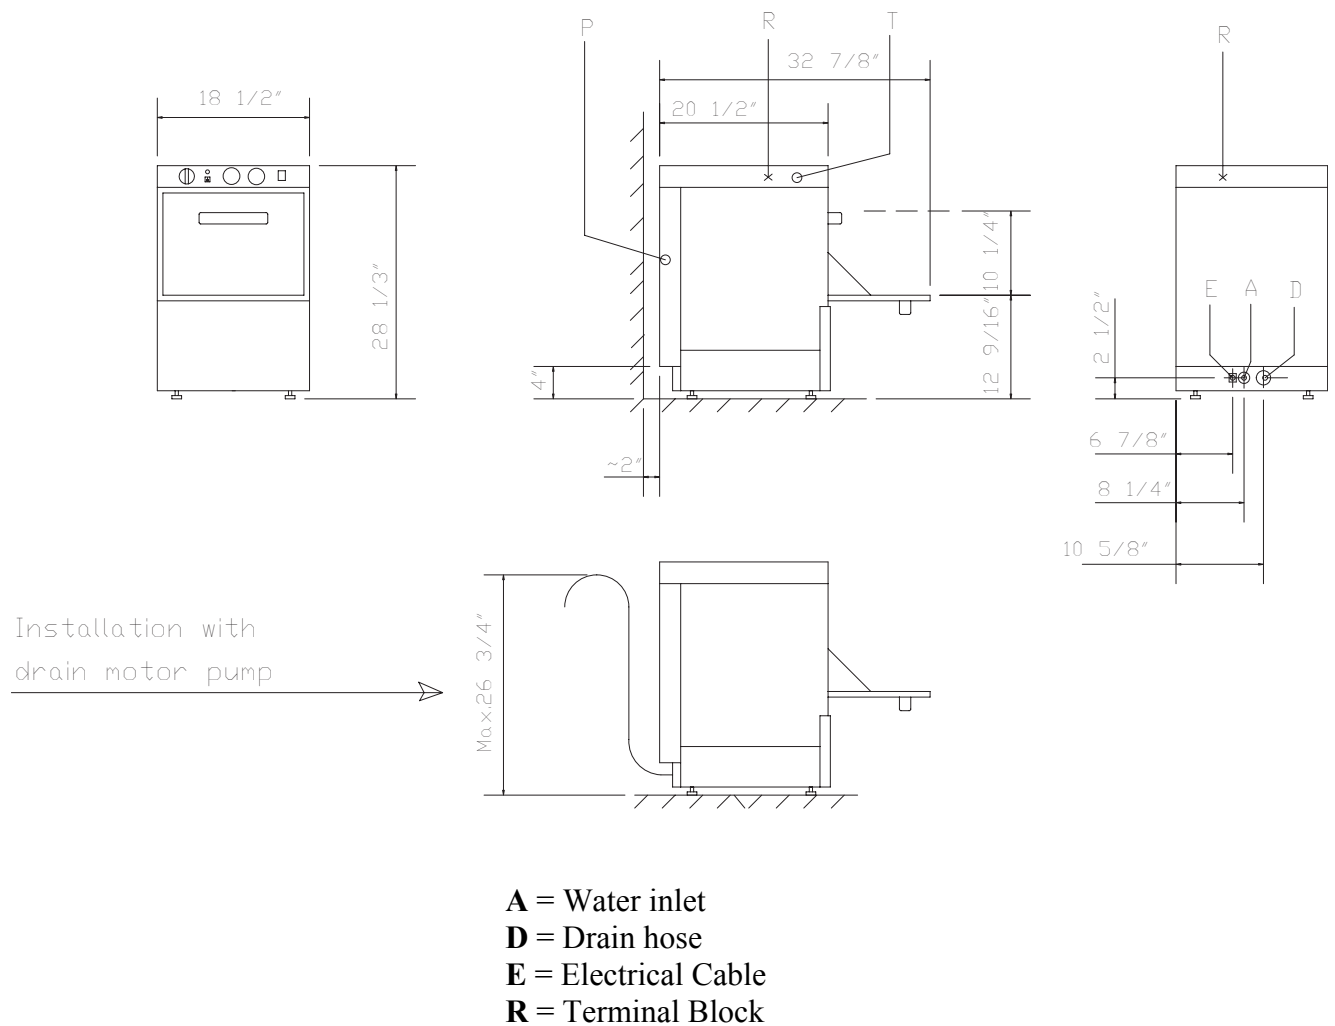
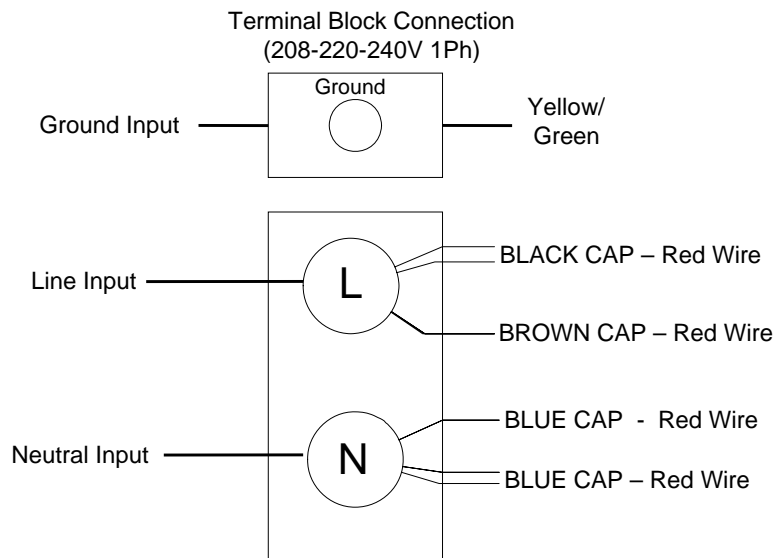

Fig. 1
Fig. 6
- Use 5' flexible water supplied hose (Fig. 1)
- To access to the electrical connection block (R) (Fig. 1), remove the top cover (T) (Fig. 1) and the rear panel (P) (Fig. 1). Connect the wires as shown in figure 6. Insert the power cord through the cord holder (E) (Fig. 1) and make sure to leave enough cable to remove the electrical panel from the front for service. Tighten the connections.